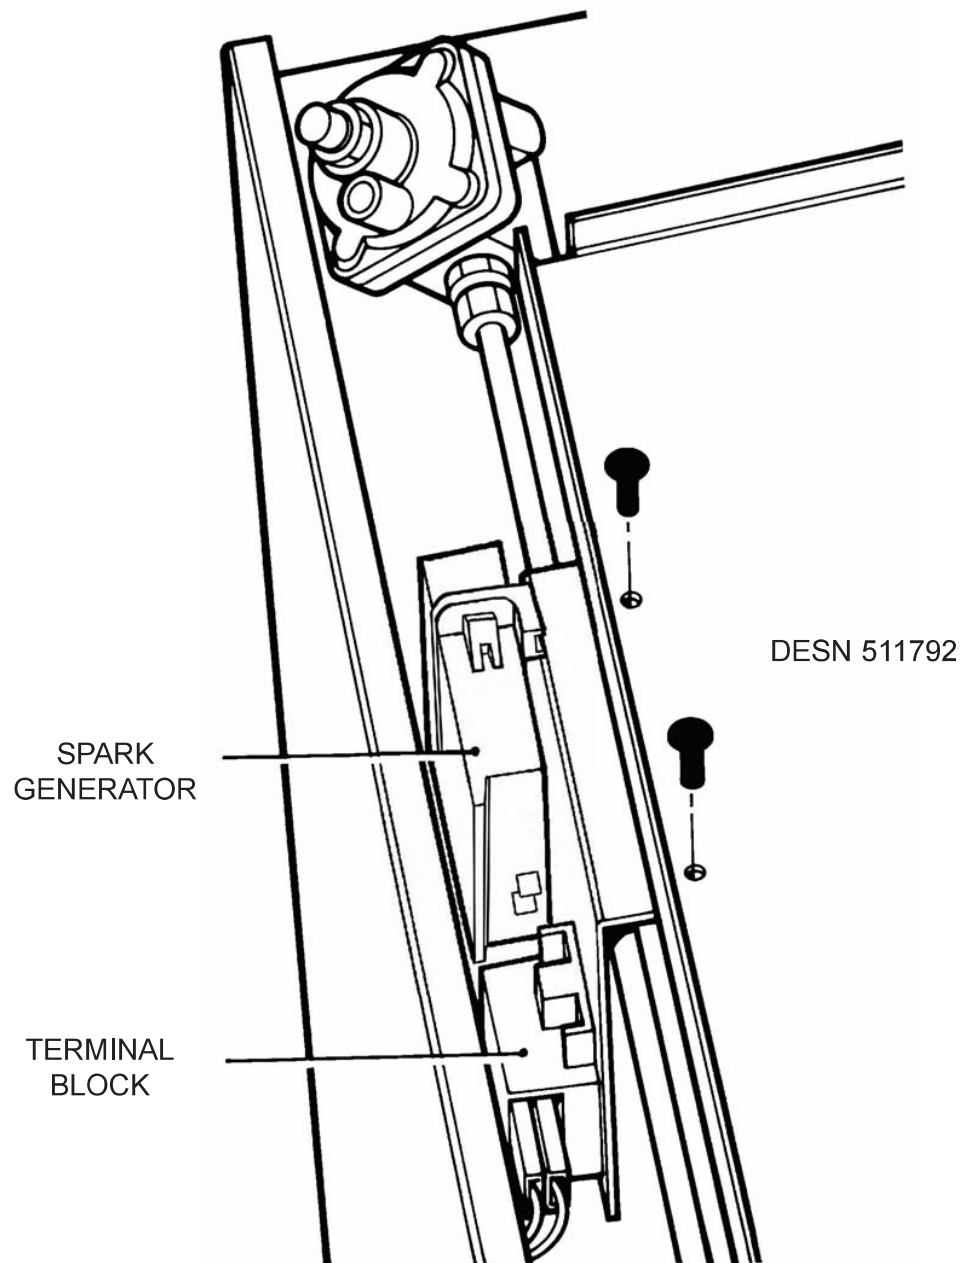

Fig. 11
3. Remove two screws retaining the generator fixing bracket to the burner mounting panel, and remove generator (See Fig. 11).
4. Carefully remove all wiring from ignition generator (Fig. 11).